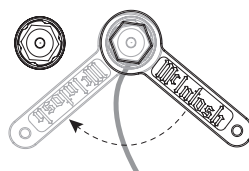

Figure 09– Tightening Output Terminal
- Place the supplied McIntosh wrench over the end of the Output Terminal and rotate it one quarter of a turn (90°) to secure the Loudspeaker cable connection (Figure 09).